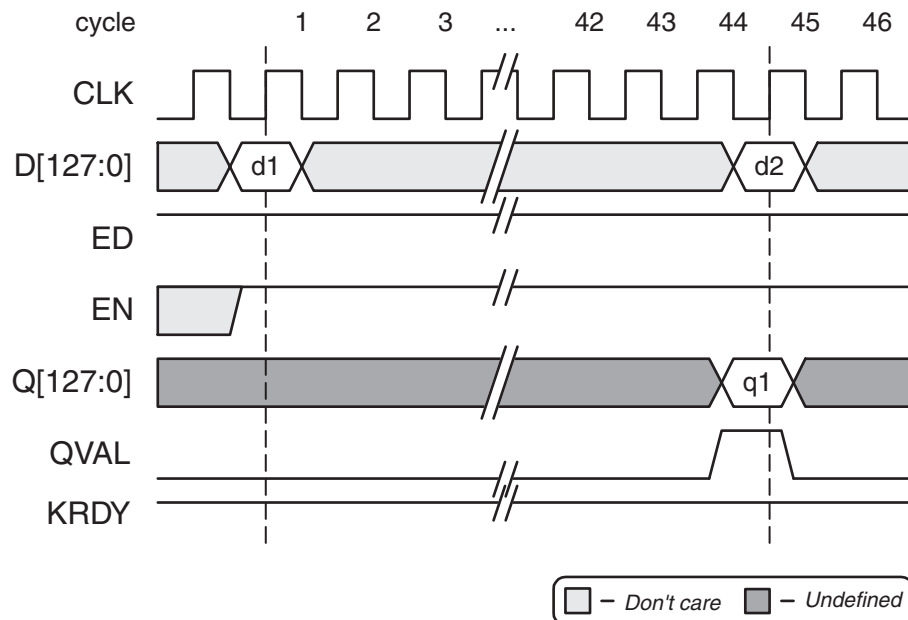

Figure 7 • Example Encryption Sequence
To begin the process of encrypting data, as shown in Figure 7, perform the following procedures:
After 44 clock cycles of the EN input being held continuously at a logic '1' value, the QVAL signal will transition from logic '0' to logic '1' and remain valid for one clock cycle. This indicates that valid ciphered (encrypted) data ("q1" in Figure 7) is available on the Q[127:0] outputs. Note that the encrypted data is only available during clock cycle 44, thus the user must register or latch the data on Q[127:0] using the QVAL signal as a qualifying register enable or latch enable.
As shown in Figure 7, continuous encryption is possible. For example, the second 128-bit plaintext data word ("d2" in Figure 7) can be immediately encrypted by setting the D[127:0] inputs to d2 on the rising clock edge of clock cycle 45.
2. Set D[127:0] to the ciphertext data (“d1” in Figure 7) to be decrypted.